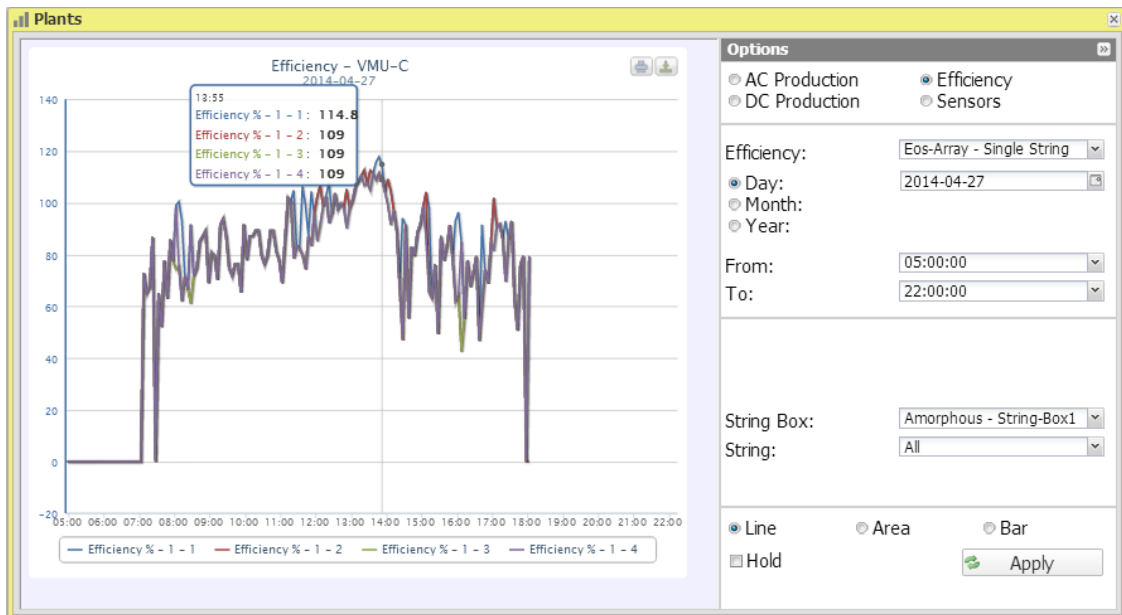

Figure 31: Plant Window; Efficiency Chart "Single String" - Options Panel.
- “DC Current (A)” : chart shows the trend of current in A within the time interval chosen.
- “DC Voltage (V)” : chart shows the trend of voltage in V within the time interval chosen.
- “DC Power+Current+Voltage+Solar Irradiation” : chart shows the four dimensions at the same time, within the chosen time interval. The chart type for this selection is as shown in Fig. 31.